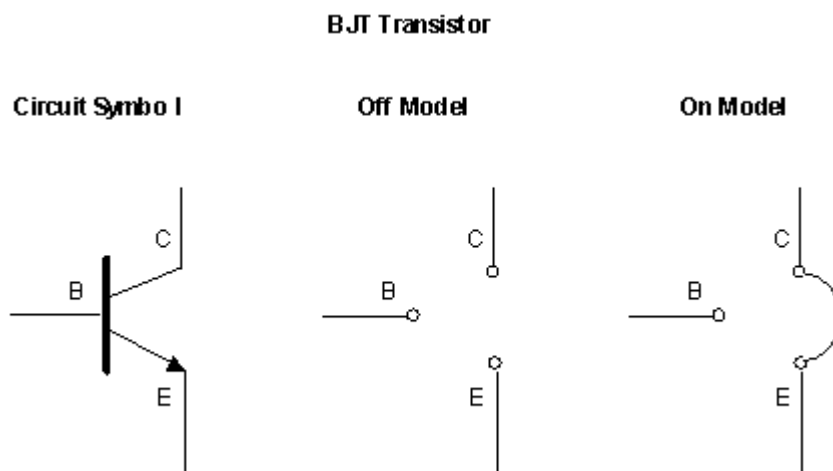

Figure 1. Bipolar transistor symbol and simple on and off models.
Bipolar junction transistors (BJTs) are three-terminal semiconductor devices made from silicon and other elements. You will learn about the fabrication, physics, and engineering uses of these devices as amplifiers and switches in a more formal manner later in the ECE curriculum, but in today's experiment, you will be using them as solid state switches. The schematic symbol and equivalent circuits for an NPN BJT is shown in Figure 1 below. The three terminals on the transistor are the collector (C), the base (B) and the emitter (E). The TA will show you in the lab how to recognize which is C and which E; B is the middle one. **Record the pin diagram in your lab book so you won't have to ask again!**